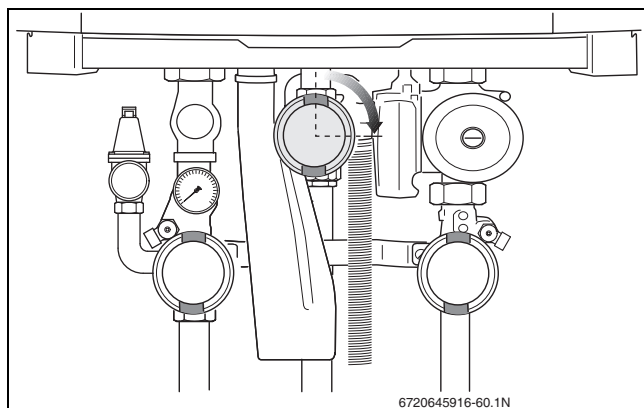

Fig. 63 Closing the gas valve
- ▶ Close the gas valve in a clockwise direction (→ fig. 63).
- ▶ Close the gas valve (→ fig. 63).
- ▶ Close the gas valve (→ fig. 63, page 36).